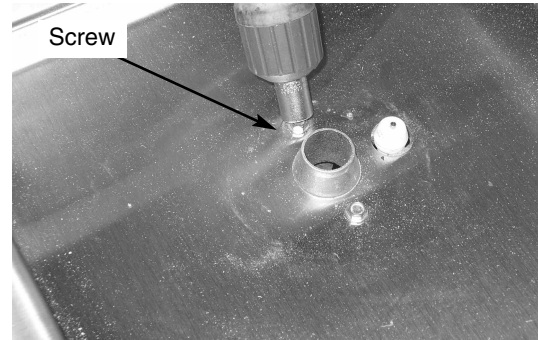

Fig 33
6. Install the NG valve assembly to the under side of the side burner with the two (2) screws previously removed. (See Fig. 33).